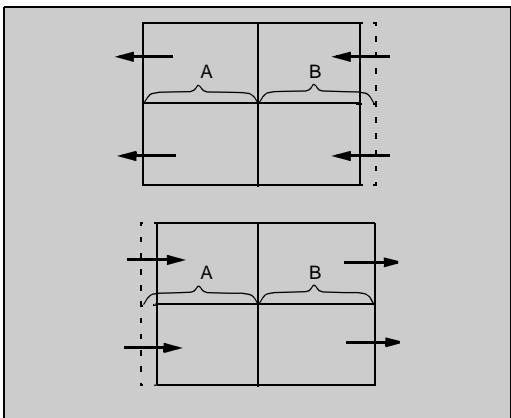

Figure 39. Linear Mode Adjustment
- Adjust linearity by pressing VOL right-left until A=B (See Figure 39)
26. Adjust Horizontal linearity (See Figure 39)